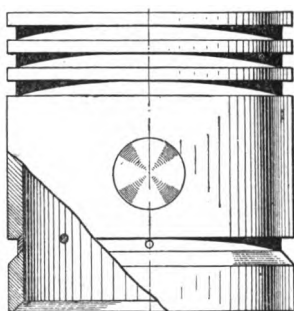

Fig. 51. Method of Grooving and Drilling Piston to Overcome Excessive Lubrication and Smoking
*Grooving Pistons.* Another method of curing the excessive lubrication to which the older cars—particularly those with splash lubrication—are subject is to turn a deep groove in the bottom of the piston, about like a piston-ring groove but with a lower edge beveled off. When this is done, about as shown in Fig. 51, a series of small holes—made with a No. 30 drill—are put in at the angle of the bevel; six or eight holes, equally distributed around the circumference, are probably enough. The sharp upper edge acts as a wiper and